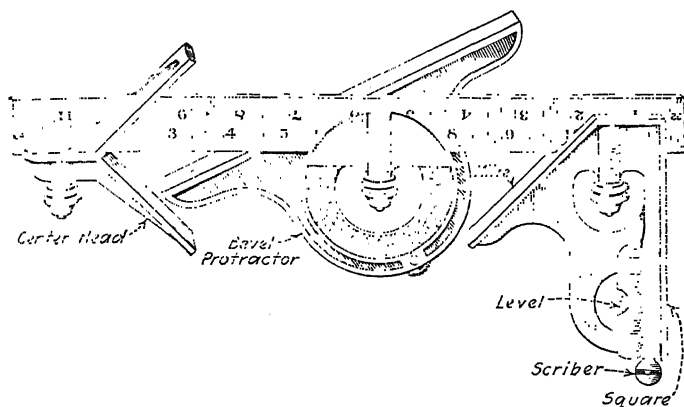

FIG. 74.—Combination set. Contains a rule, a square, a mitre, a center square, a protractor, a level, and a scriber. (Courtesy of The L. S. Starrett Company.)
*Center-square Method* (Fig. 73). Hold both limbs of the center head of a combination set (Fig. 74) against the surface of the work and, with a scribe, rule lines at about right angles to each other. The intersection of these lines is the required center.